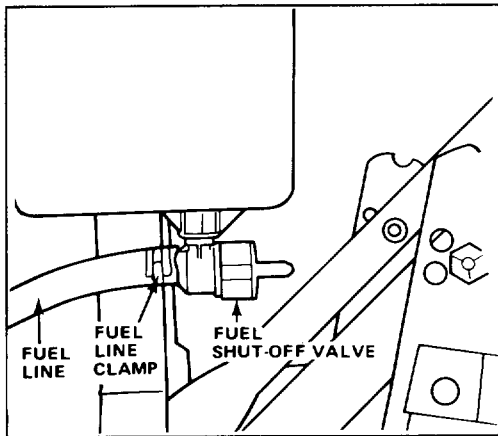

Figure 3
3. Slide end of fuel line onto fuel shut-off valve fitting. Secure in place with fuel line clamp (Fig. 3).